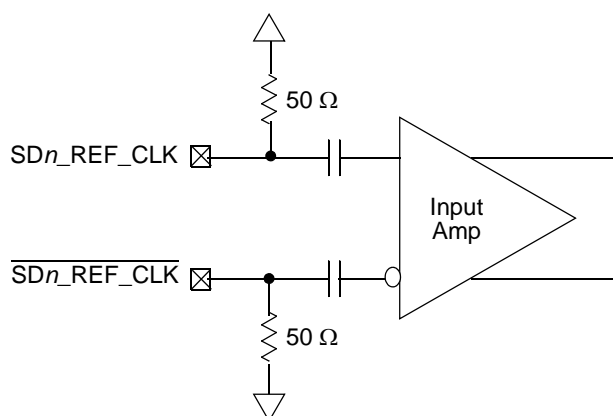

Figure 43. Receiver of SerDes Reference Clocks
Figure 43 shows a receiver reference diagram of the SerDes reference clocks.
- The SD_REF_CLK and $\overline{SD_REF_CLK}$ are internally AC-coupled differential inputs as shown in Figure 43. Each differential clock input (SD_REF_CLK or $\overline{SD_REF_CLK}$) has a 50- Ω termination to SGND_SRDS followed by on-chip AC-coupling.